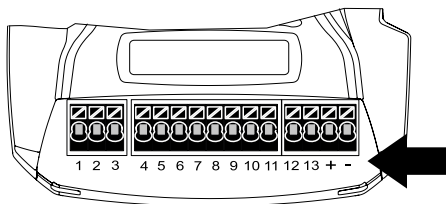

Figure 1
6. Insert the battery into the new sensor (see page 9) and press the red button of the sensor (figure 1 on the side) for a few seconds;